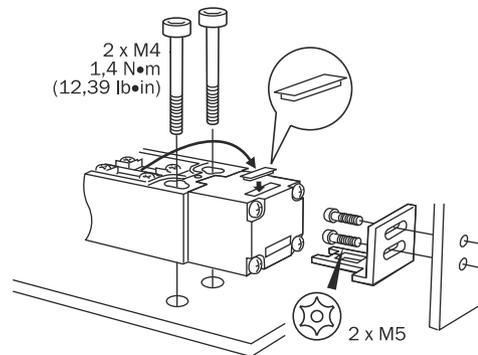

Figure 1: Mounting of the safety switch
- ▶ Tighten the safety switch using 2 × M4 screws to 1.4 Nm (see figure 1).